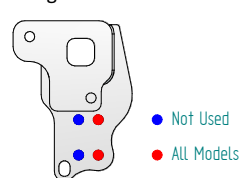

Figure 3
8. **A4/A5 F2 (FU) 2025>** Remove the **GSM** sensor bracket, two fixings from the body on the offside to gain clearance to the impact beam's bolts.
9. Remove the rear impact beam, seven fixings. **Note: This is not refitted with the Towbar assembly. Replace the fixings into rear panel and as per Figure 3** replace the offside upper inner fixing into the rear panel using item **H** with items **L** to prevent water ingress. Refit the **GSM** sensor bracket.